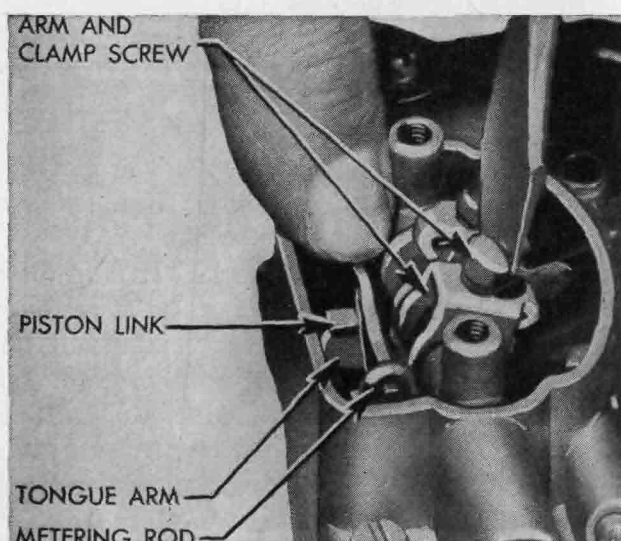

FIG. 10-24. Adjusting metering rods. (Buick Motor Division of General Motors Corporation)
7. Insert ends of metering rods in hooked ends of metering-rod spring, and push rods down to where eyes can rotate over pins on piston link. Avoid bending rods. Adjust rods, after adjusting accelerator-pump plunger, by backing out throttle level stop screw so throttle closes completely. Loosen metering-rod-arm clamp screw (Fig. 10-24), and press down on piston link until metering rods bottom in carburetor body. While holding rods down and throttle closed, revolve metering-rod-arm until tongue on arm just touches lip of piston link. Then tighten metering-rod-arm clamp screw.